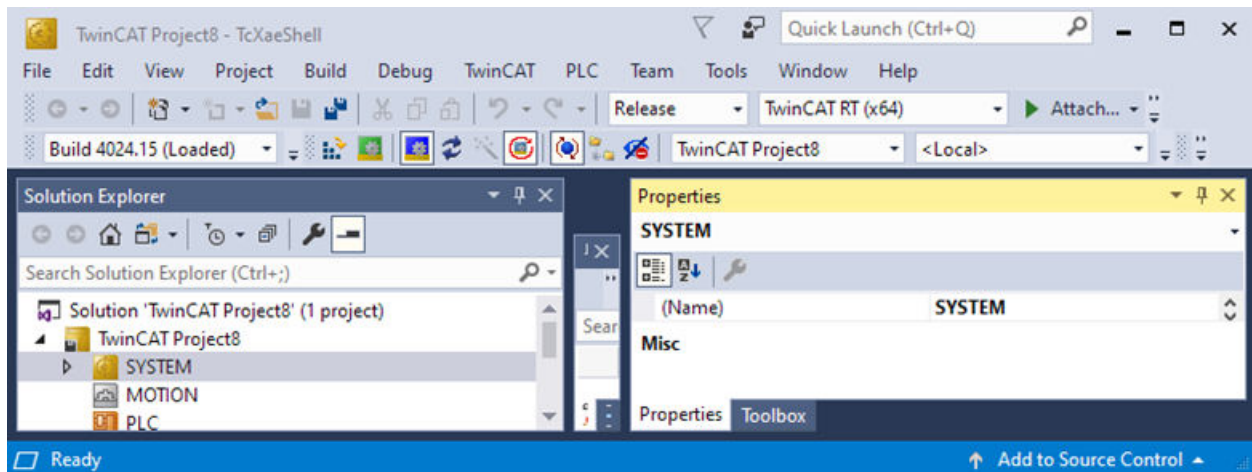

Fig. 12.2: Project running configuration
3. The *Restart TwinCAT* (Config Mode), *Toggle Free Run State*, and *Show Online Data* buttons should all be pressed, as shown in Fig. 12.2.